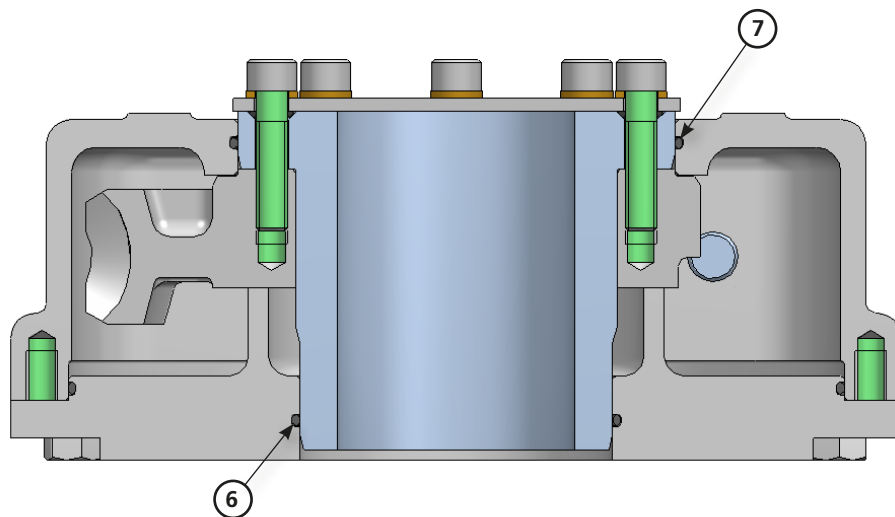

Figure 3 – O-ring inspection
Referring to Figure 3, O-rings (6) and (7) are to be inspected for damage, greased and properly seated before re-fitting the output sleeve. If the O-ring is damaged, then it should be replaced prior to fitting the output sleeve.